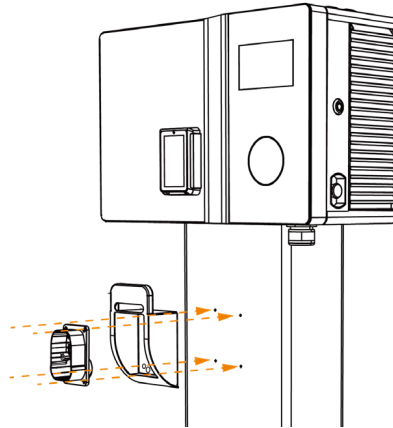

**FIG 40: INSTALLATION DIAGRAM OF COVER PLATE OF COLUMN**
**Step 8:** Reinstall the cover plate on the column, as shown in FIG. 40.